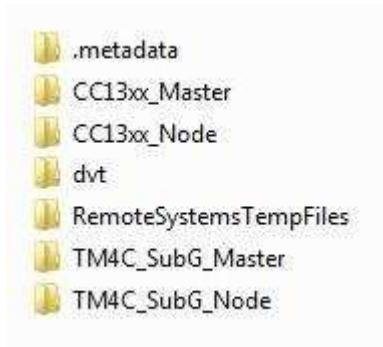

Figure 9. CCS Workspace
2. Place the extracted CC13xx_Master, CC13xx_Slave, TM4C_Sub1GHz_Master, and TM4C_Sub1GHz_Node directories in your workspace (see Figure 9).